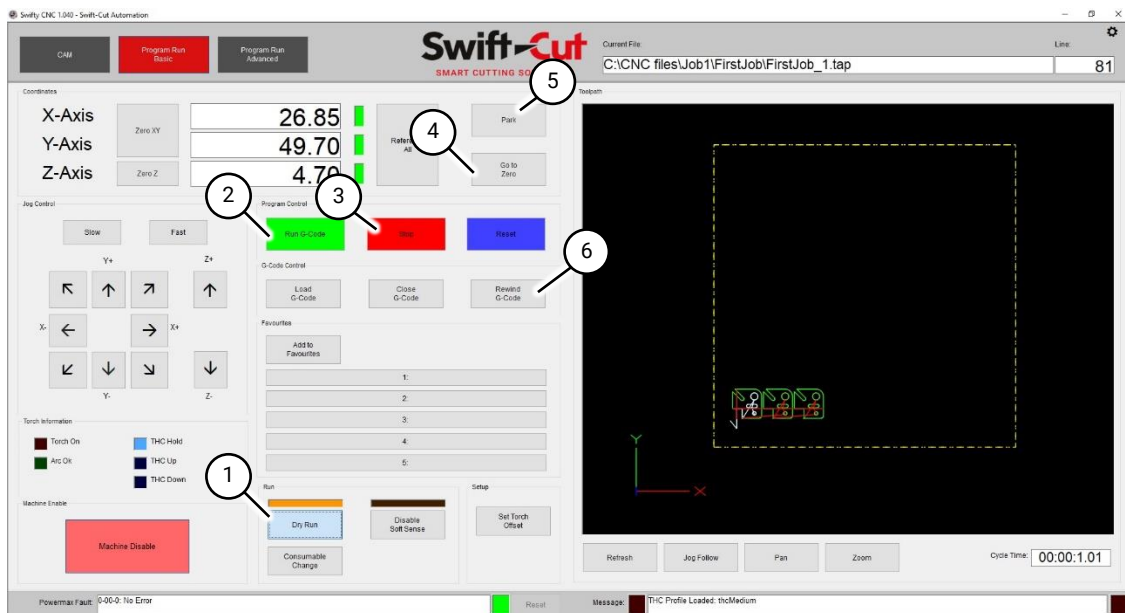

Fig 68 Dry run
1. Pressing the Dry Run button (Fig 68 (1)) allows the job to be previewed without cutting taking place.
2. Press the Run G-Code button (Fig 68 (2)) to execute a dry run.
3. The dry run can be stopped anytime by pressing the Stop button (Fig 68 (3)).
4. De-select the Dry Run button (Fig 68 (1)) to switch off the dry run.
5. Press the Go to Zero button (Fig 68 (4)) to return to the start position selected earlier.
1. Press Rewind G-Code button (Fig 68 (6)) to ensure the g-code is starting from the beginning.
2. Press the Run G-Code button (Fig 68 (2)) to activate the cutting process. The process can be halted at any time by pressing the Stop button (Fig 68 (3)).
3. After cutting is finished, jog the torch away from the material, or press the Park button (Fig 68 (5)).